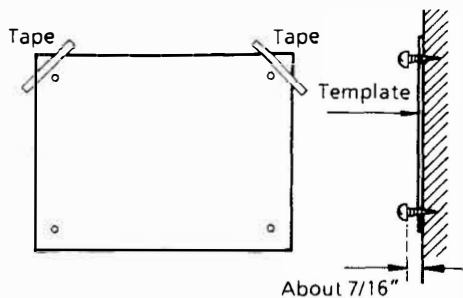

Figure 200-14 Wall Mounting the KSU
- Tape the template to the MDF and fasten it with the four mounting screws approximately 7/16" or halfway (locally provided). Refer to Figure 200-14 Wall Mounting the KSU.